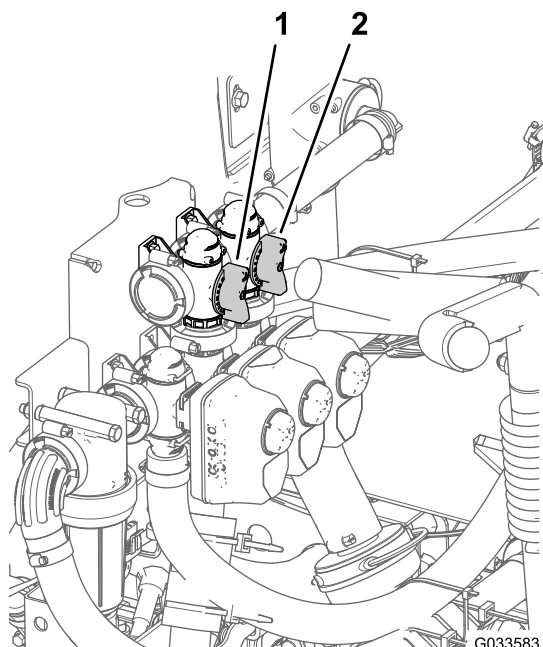

Figure 88
11. Adjust the agitation bypass valve (Figure 88) on the backside of the agitation valve until the pressure reading on the gauge is 6.9 bar (100 psi).
8. Adjust the master section-bypass handle to control the amount of agitation occurring in the tank (**Figure 88**).